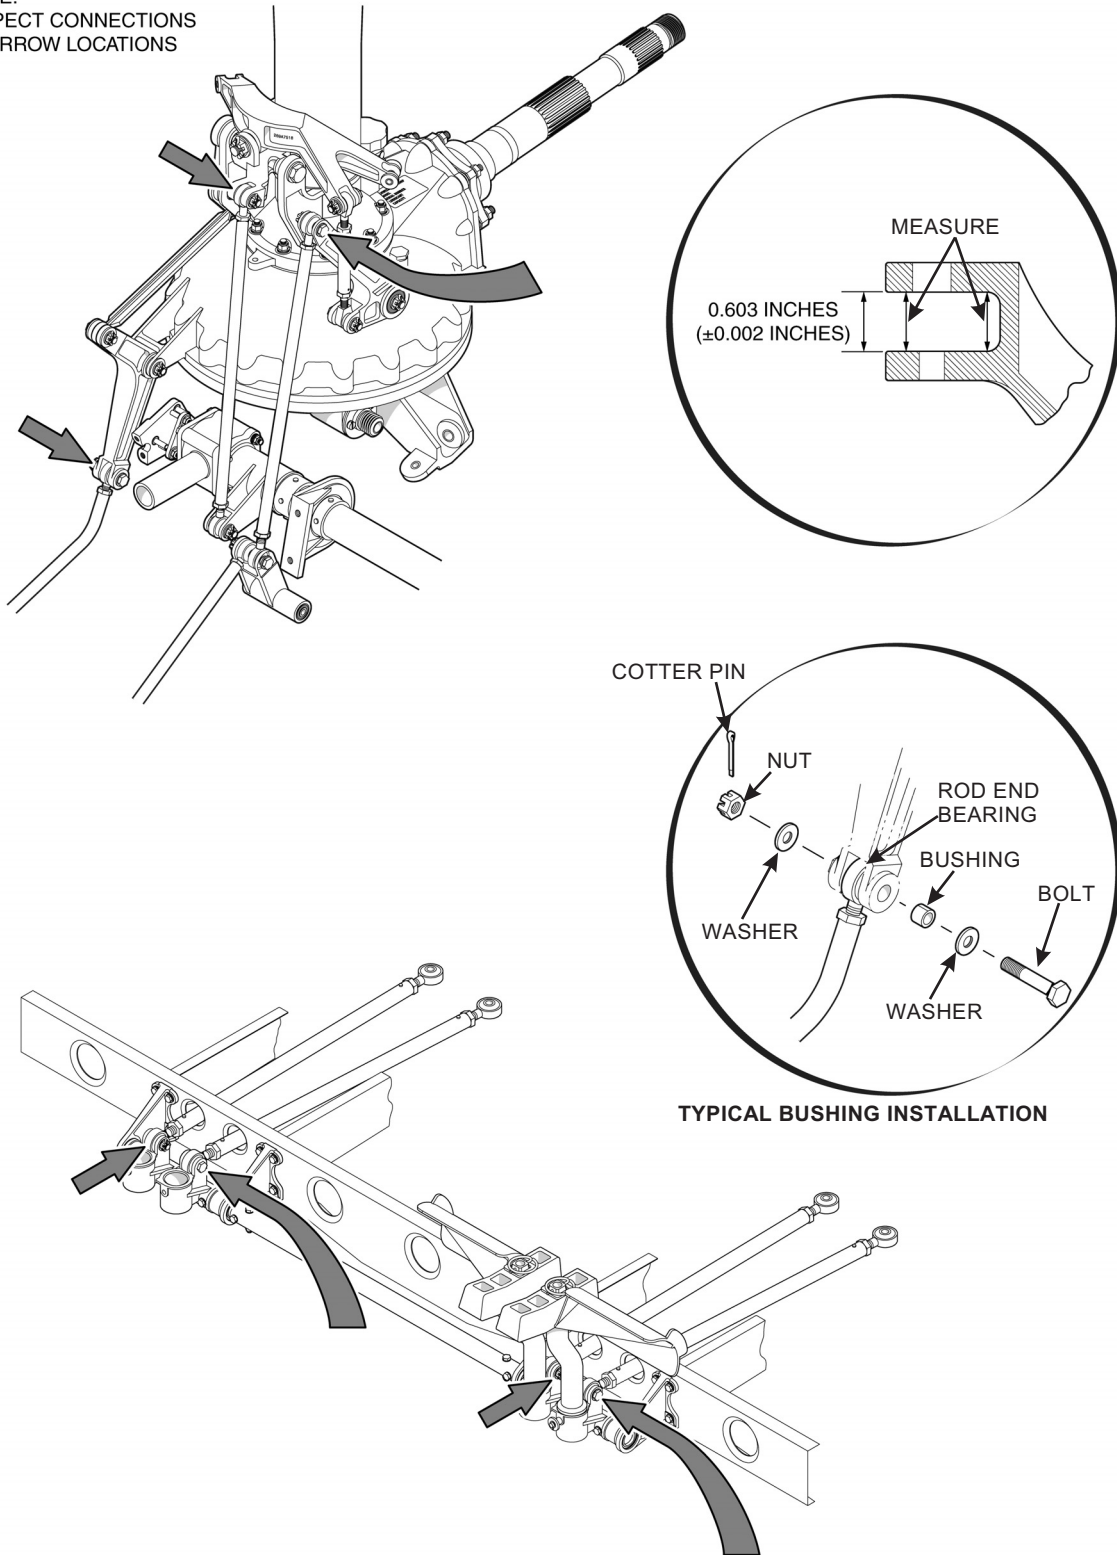

Figure B-294-1. Flight Control Inspection Points
- a. Review Figure B-294-1 and note locations of all SHS626-4-313 bushing installations.
- c. If incorrect bushing is installed, remove bellcrank. Using Vernier calipers, check that the inside surfaces of the fork legs in two locations measure $.603 \pm .002$ (Figure B-294-1) and are parallel to each other. If surfaces are parallel, perform a dye penetrant inspection in accordance with Basic HMI Section 2. Remove from service and destroy any bellcrank found to have distorted or cracked legs.